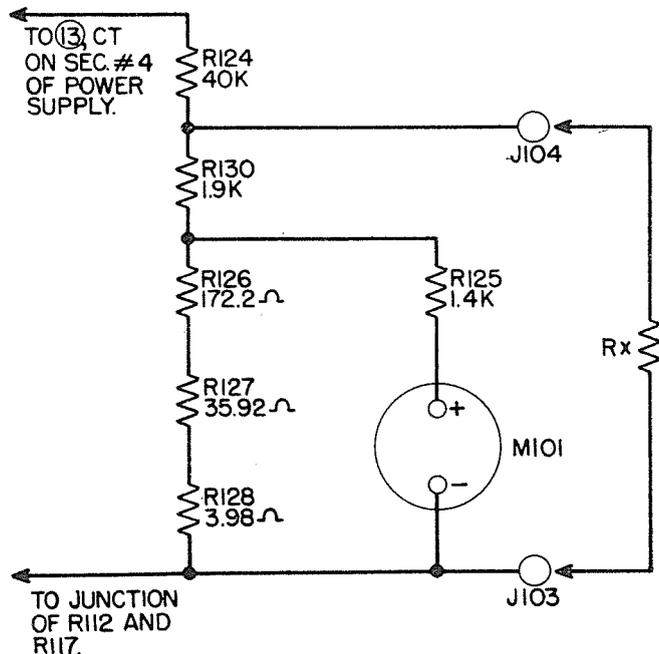

Figure 2-10. Simplified Ohmmeter Circuit for Thousands Range
(1) The voltmeter circuit consists of the METER, M101, shunted by resistors R131 and R133, with a network of series resistors R132-R137-R138-R139 connected to the point where R131 and R133 are joined.
(2) The MASTER switch S112 connects the jack J104 to the proper tap of the series resistors for the voltmeter range selected.
(3) For AC volts, the copper oxide rectifier CR101 is connected into the voltmeter circuit, by operating the switch S114 to the proper position.
b. OHMS, THOUSANDS and MEGOHMS. (See Figures 2-10 and 2-11)
(1) The ohmmeter section has two ranges, one reading in thousands of ohms and the other reading in megohms. Each has a voltage divider network selected by the MASTER SWITCH S112, which connects the meter across part of the voltage divider, so that it reads INF. or full scale when a standard voltage is applied by setting LINE ADJUST control R113.
(2) The unknown resistance connected between test jacks J103 and J104, parallels part of the divider network, changing the effective resistance of the divider.
(3) The meter scale indicates the value of the unknown resistance directly.